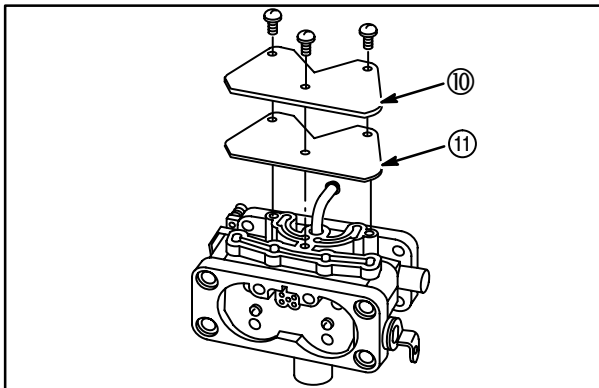

Fig. 119
7. Remove cover plate (10). Discard gasket (11), **Fig. 119**.